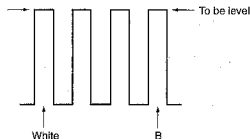

Fig. 3-4
6. Adjust the COMPONENT B-Y so that the TP305 (B OUT) level and the B level will be the same. (Fig. 3-4)